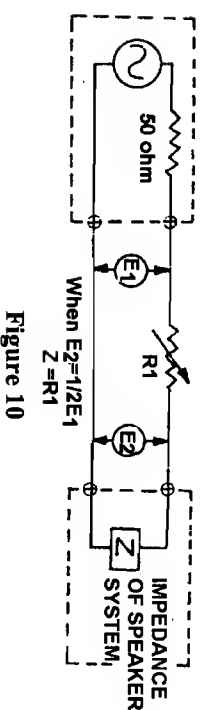

Figure 10
- (1) Connect the setup as figure 10, where R_1 is the potentiometer to find out the impedance of DUT. E_1 and E_2 are voltmeters used to monitor the voltages of the source and the DUT.